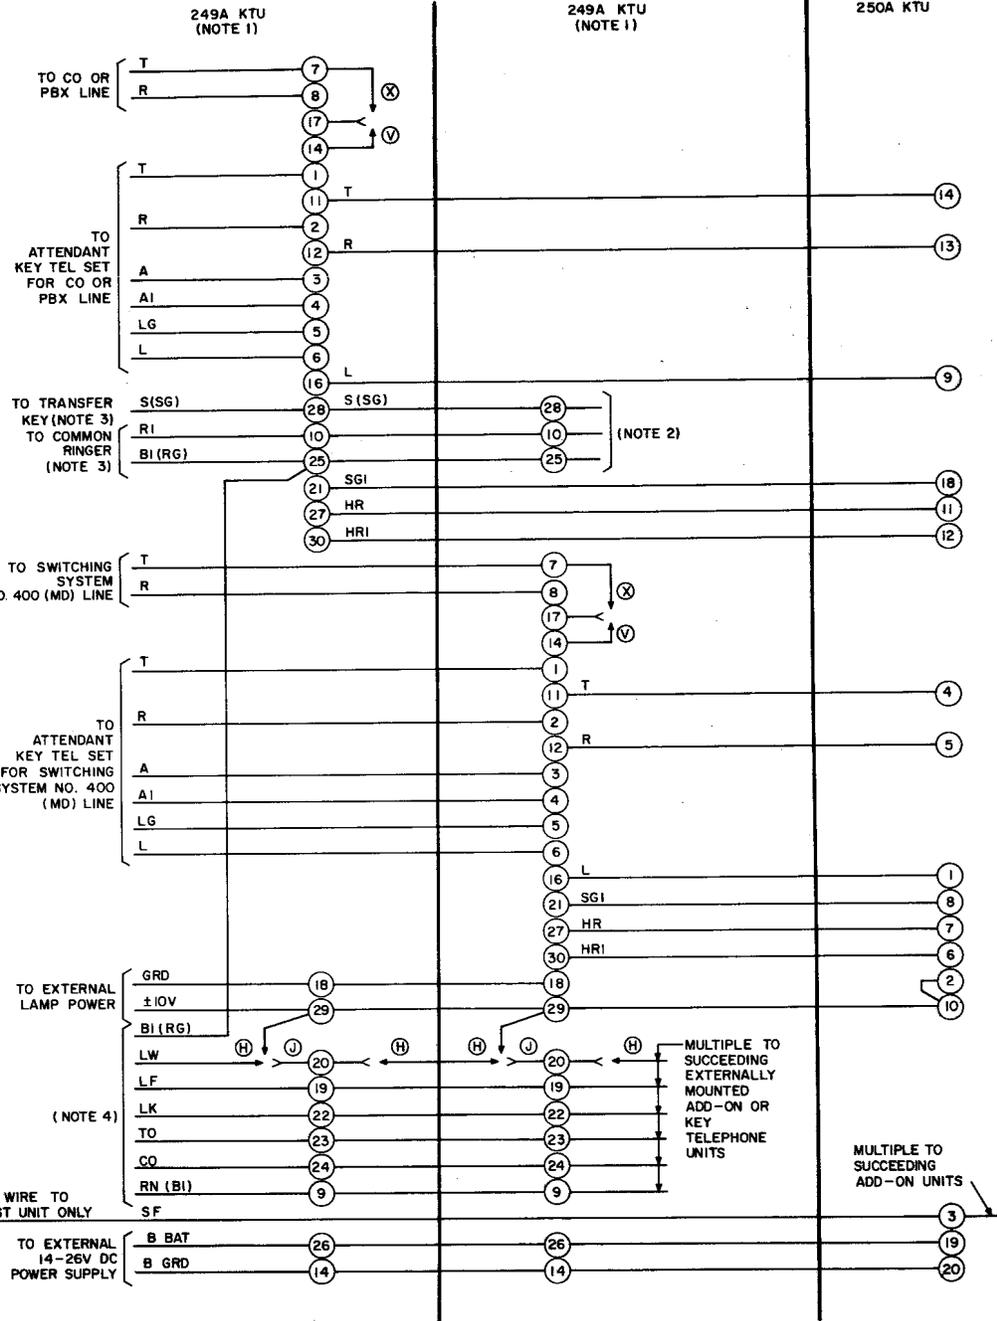

Fig. 12—Connections for External Add-on Circuits
**4.08** When more than fifty 51A line lamps are required, install external  $\pm 10$ -volt power supply and common control equipment (TO relay and interrupter) such as a 232-type KTU. Connect as shown in Note 1 of Fig. 12, 13, and 34. However, the internal interrupter will always furnish the **SF** lead.
**4.09** Externally mounted add-on units (two 249A and one 250A KTU per add-on line) may be mounted in any standard apparatus cabinet designed to mount 200-type KTU (see Fig. 12 for connections).